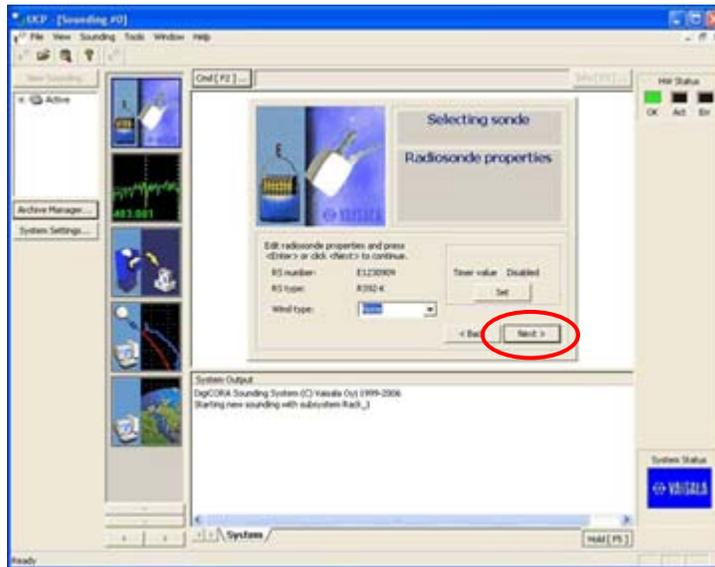

Figure 5
- 7) On the “Radiosonde properties” screen, verify the serial number and sonde type, and then press “Next” (see Figure 5).